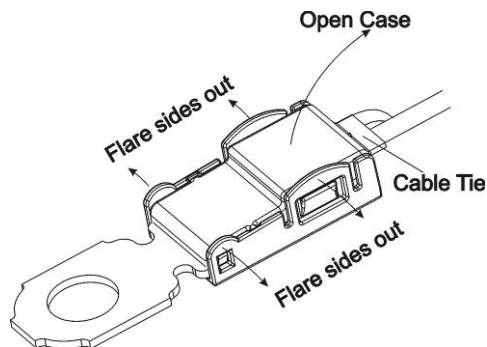

FIGURE 1: Opening Thermal Probe Case
3. On the existing thermal probe, cut the cable tie (strain relief) and open the case (if case is damaged during opening, a spare is provided in the expansion kit). Do not unplug existing wireset. See Figure 1.